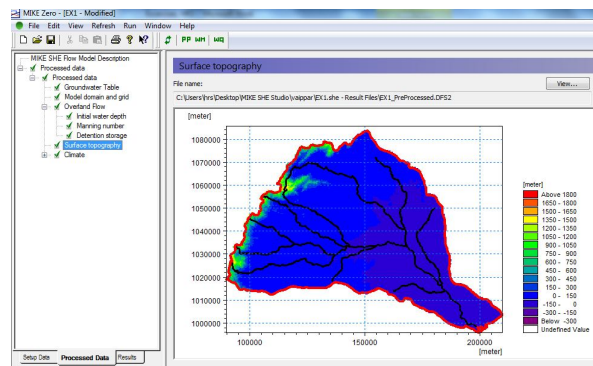

Figure 125: Surface topography processed data
- Try selecting the 'surface topography' and then click the 'View button' (See Figure 125)